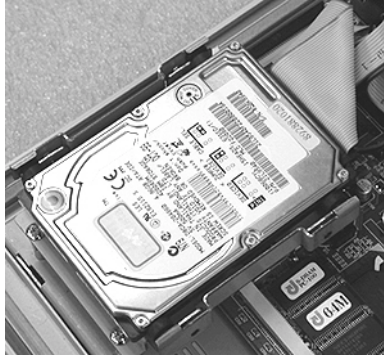

Figure 2.10: Assemble HDD brackets
4. Place the hard disk on the top of the hard disk base. The four rubber screws should fit into the side holes as shown in Figure 2-10.
5. Put the two HDD brackets comes in the accessory box on both sides of the hard disk as shown in Fig 2-10.